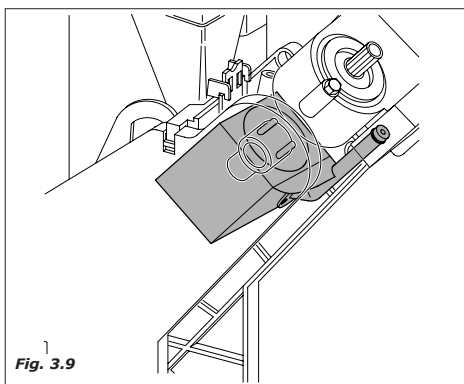

Fig. 3.9
- the coffee group geared motor is activated again so as to bring again into standby position; during this movement the used coffee grounds are expelled (Fig.3.9).